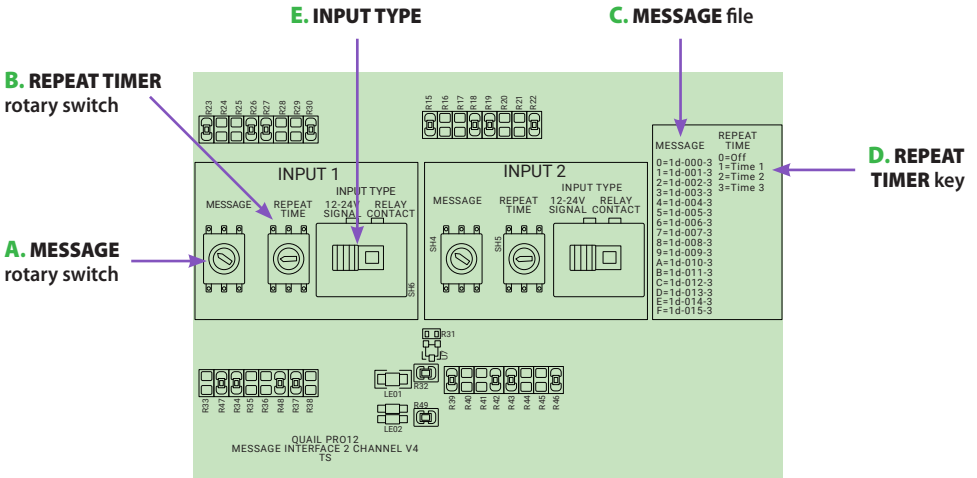

figure 20 - Configuring Message Interface PCB
- 2 On the Message Interface PCB (Printed Circuit Board) – see *figure 20* – switch the **INPUT TYPE (E)** accordingly for each alert device to **12-24v Signal** or **Relay Contact**.
- 3 Decide which alert output device is linked to which message file – see **MESSAGE file (C)**.
- 5 Set the **REPEAT TIMER** rotary switch (**B**) as required for each application as **REPEAT TIMER key (D)**: (0 = no repeat, 1 = 1 minute, 2 = 2 minutes, 3 = 3 minutes).